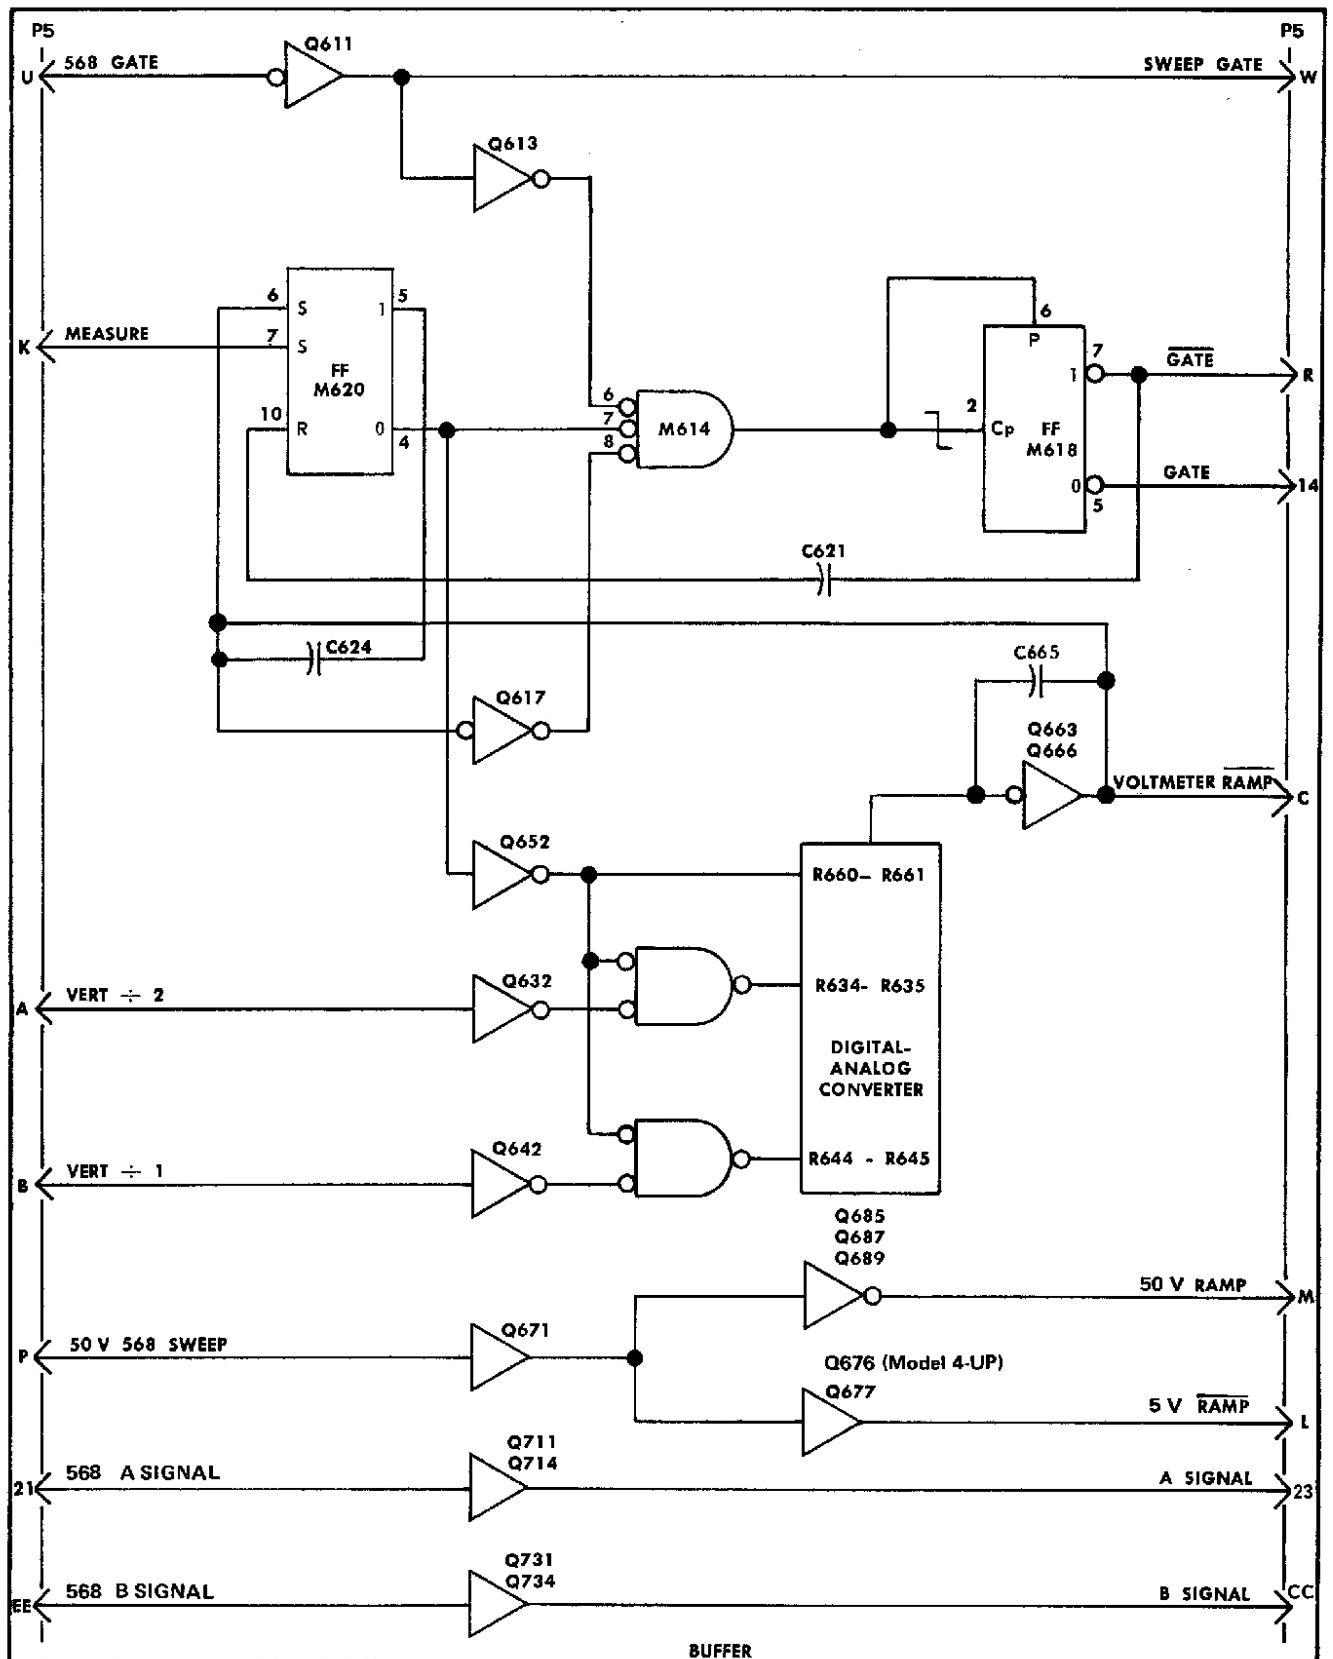

Fig. 4-6. Buffer circuits logic diagram.
**GATE and GATE Generator Circuit.** The signal on connector P5 pin U (see Fig. 4-6) is actually the plus gate from the time base plug-in unit. Throughout this description this particular signal is referred to as the 568 GATE since it arrives via the Type 568. The 568 GATE goes high at the start of the sweep, then goes low as the sweep ends.